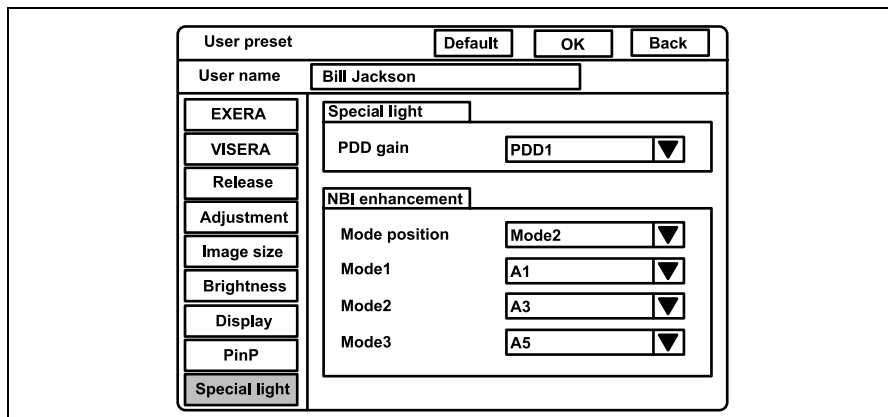

Figure 9.46
1. Click “OK” in the user preset menu (see Figure 9.46). A confirmation message appears on the monitor.